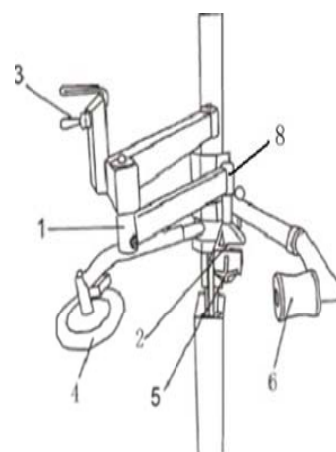
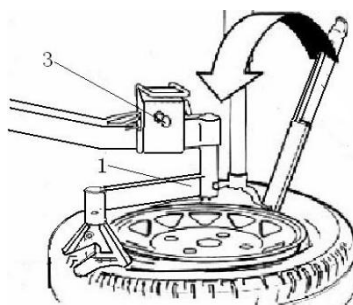

Fig 11
Fig 16
- 4) Install the tire pressing rotating arm 1, tire pressing head(upper) 2, rise-fall switch handle 3, tire lifting roller 4, tire pressing head(bottom) 5, tire pressing roller 6, tire pressing arm 8 separately on the help arm.(Fig 11)
Fig 11 shows functional parts of the 007B device:
The rise-fall switch handle (3, **Fig 11**) is to adjust the tire pressing rotating arm (1, **Fig 11**) when mounting and demounting tires.
1) Lift the rise-fall switch handle(3, **Fig 11**) up, the tire pressing rotating arm (1, **Fig 11**) should rise. Down the rise-fall switch handle (3, **Fig 11**), the tire pressing rotating arm (1, **Fig 11**) should lower.
3) Operate the rise-fall switch handle (3, **Fig 11**) to adjust the tire pressing roller (6, **Fig 11**), make it get touch with the tire's arc to facilitate the mounting and demounting operations.
- c- Raise the auxiliary arm, mount the tire pressing head (upper) on the tire pressing arm (8 Fig 11) and rotate it to the opposite side of the mounting head. Press the tire with the switch handle to create enough space; hang the bead on the demount/mount head with the help of the lifting lever(Fig.16).